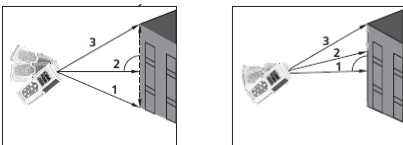

Fig. 8: Examples of indirect 3-point measurements
3. Position the instrument in the lowest point (1) of measurement (see Fig. 8) and press the  key. The result appears on the first partial display. The symbol “” appears on the display with side “2” flashing
4. Position the instrument as horizontally as possible (2) (see Fig. 8) and press the  key to measure. The result appears on the second partial display. The symbol “” appears on the display with side “3” flashing
5. Position the instrument in the highest point (3) of measurement (see Fig. 8) and press the  key to measure